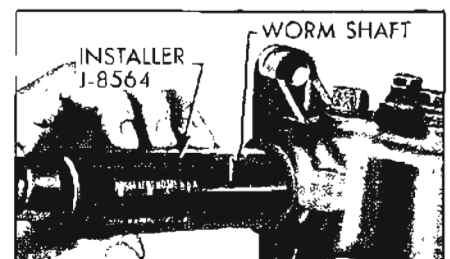

Figure 8-12—Installing Worm Shaft Seal
It is not necessary to disassemble gear to replace worm shaft seal. Remove worm seal with awl being careful not to damage housing or shaft and install a new seal with Installer J-8564. See Figure 8-12.
9. Install new worm shaft seal using Installer J-8564. See Figure 8-12. Drive seal flush with surface of housing.